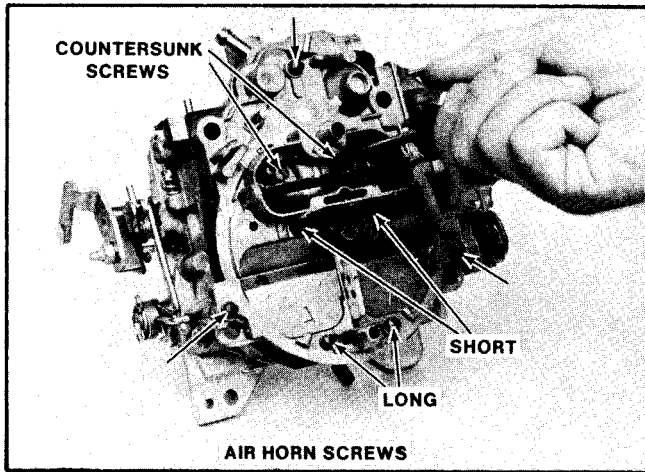

Figure 46 Air Horn Screw Removal
8. Remove air horn to bowl attaching screws (Figure 46); early models have 9 screws, later models have 13 screws for better control of evaporative emissions. If used, remove bowl vent valve cover, spring and gasket from beneath front air horn screw.